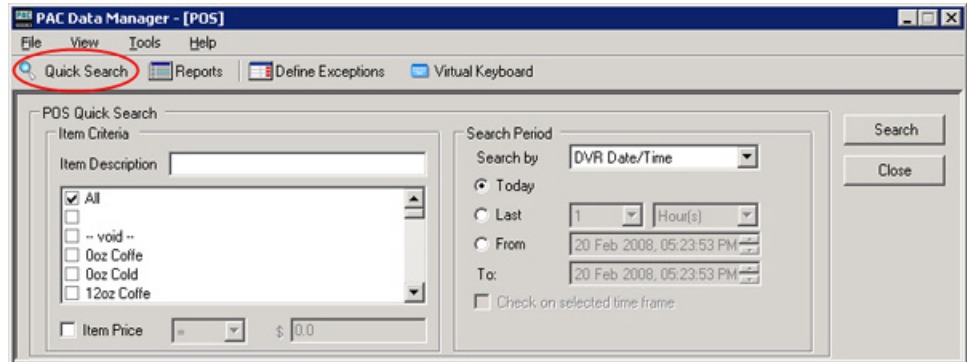

Figure 20 – Shows the Quick Item Search function
1. Click on the Quick Search button indicated on Figure 20